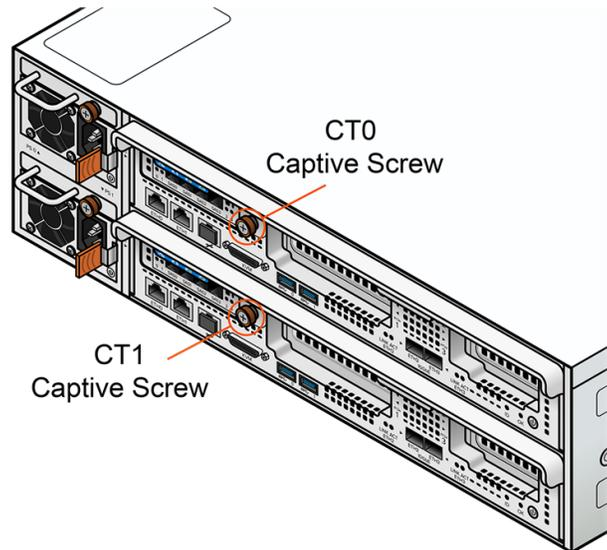

Figure 13-9. Loosening the Captive Screw
1. Loosen the orange captive screw on the rear panel of the controller. See Figure 13-9.